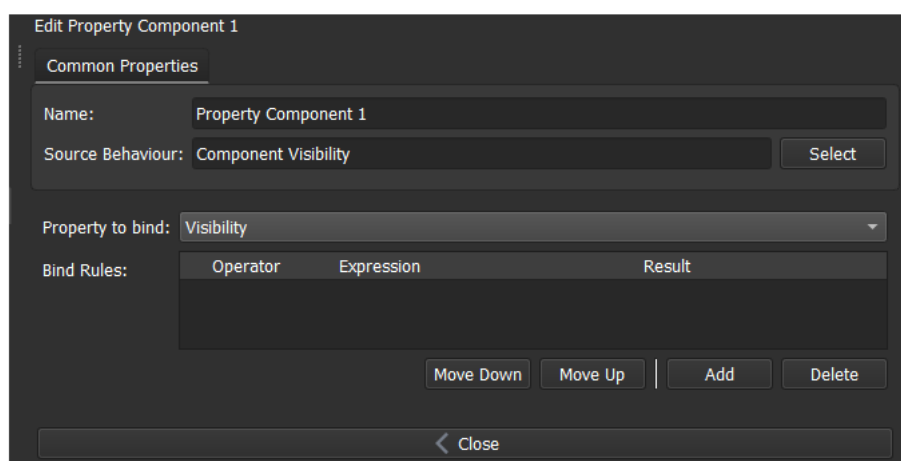

Fig. 4-48: Edit Property Binding Settings (for Component Instance 1)
- 2 Add a **Property** Binding and view its properties; see Figure 4-48.
To select 'Property to Bind', in the Edit Binding Properties box (Figure 4-48 on page 119):